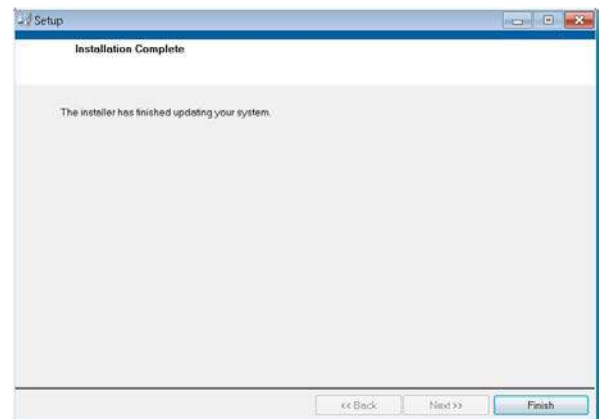

Figure 9. ADXL372 Evaluation Board GUI Installation Complete
4. Click **Next** to start the installation. The installer completes installation of the software evaluation GUI and all required National Instruments drivers and run-time engines. After the installation is complete, the dialog box (see Figure 9) is displayed.